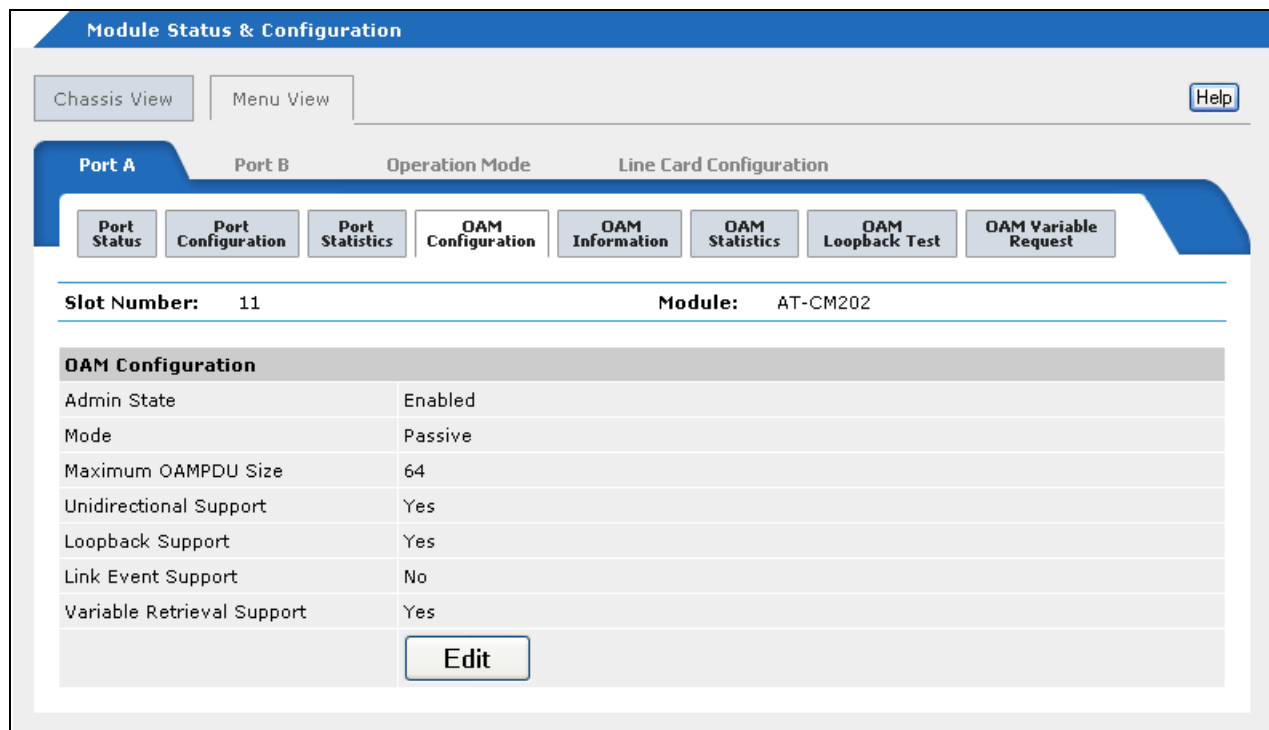

Figure 91. OAM Configuration Tab
4. Select the **OAM Configuration** tab to display the OAM Configuration window shown in Figure 91.